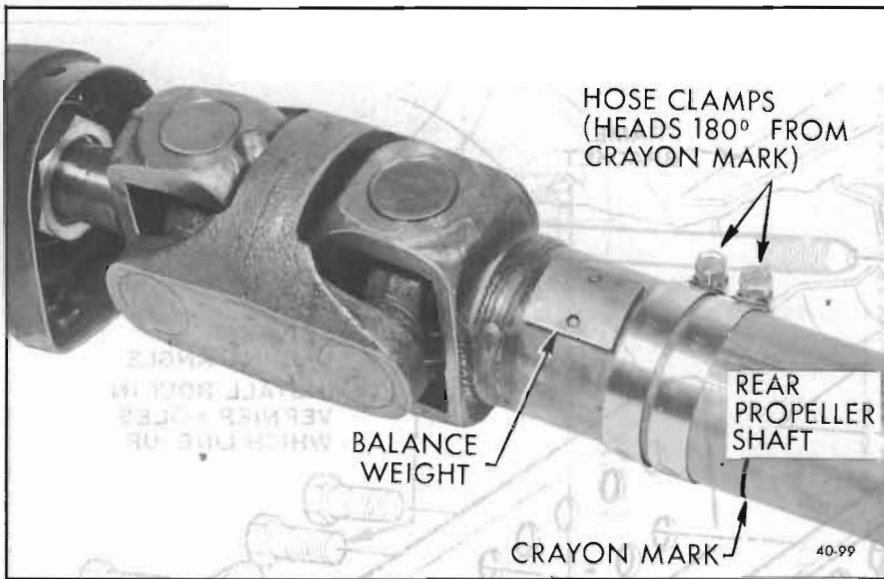

Figure 40-85—Balance Hose Clamps in Place
3. Install two (2) Wittek type hose clamps on the rear propeller shaft and slide them rearward until the clamps stop at the nearest balance weight welded to the tube. Align both clamps to any one of the four marks made on shaft in Step 2. Tighten the clamps. See Figure 40-85.